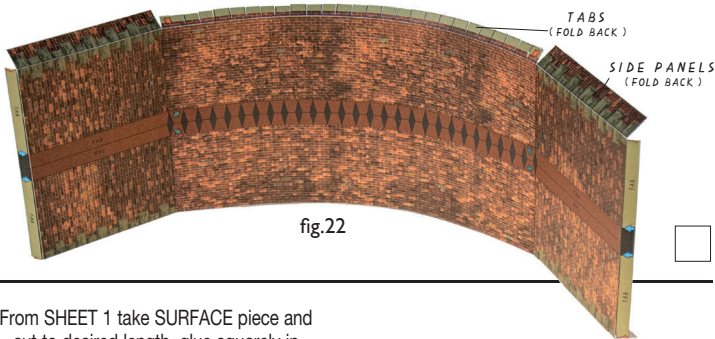

fig.22
- 2 From ACCESSORIES CARD C take the ARCH LINING ALTERNATIVE component as one piece. Cut and fold all outer TABs as illustrated in fig.22, noting just the red arrows.